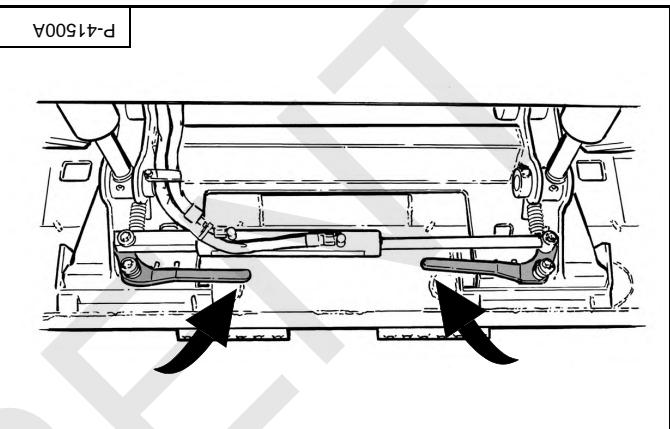
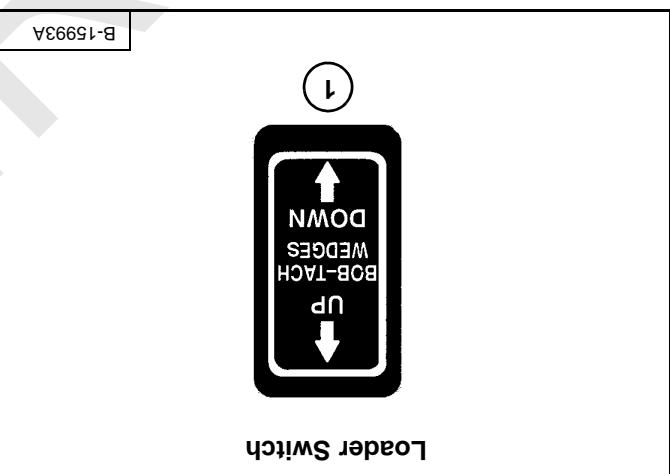

Figure 15
Figure 14
Push and hold the BOB-TACH "WEDGES DOWN" switch through the attachment mounting frame holes). (item 1) [Figure 14] until the levers are fully engaged in the locked position [Figure 15] (wedges fully extended in the locked position).